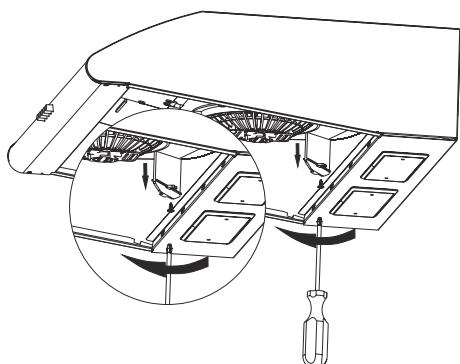

Fig. 6
- Then remove the long throttle on the motor case (Fig. 6).